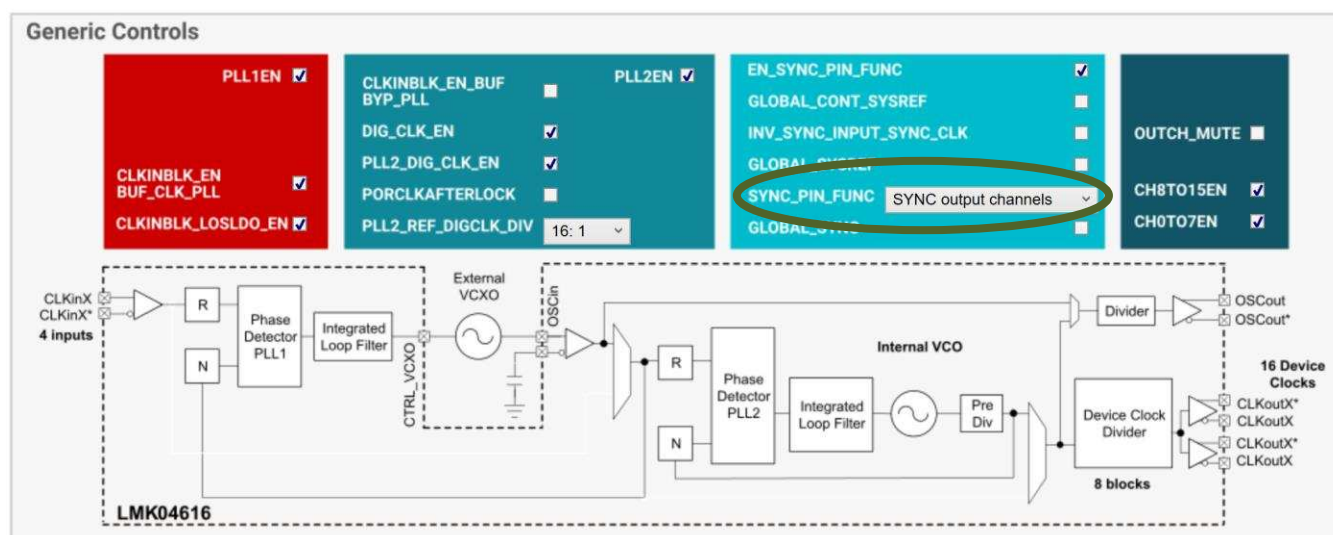

Figure 8. TICSpro Setting SYNC Pin Function
- Select SYNC output Channels from the SYNC_PIN_FUNC drop-down options, as Figure 8 shows.